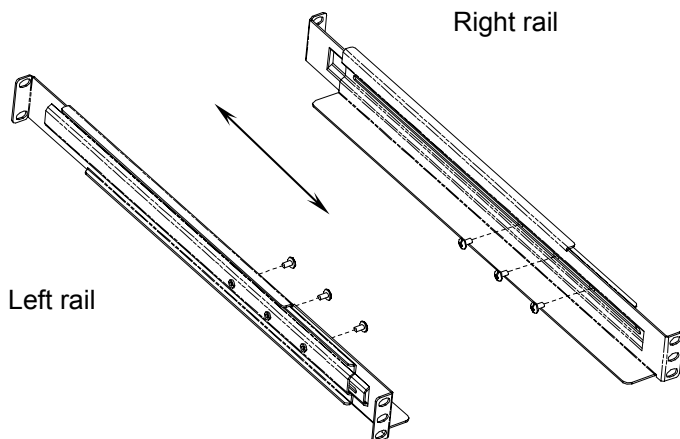

Fig. 1: Pre-installation of the left and right rails
1. First install the enclosed rack rails, which can be varied in terms of depth, see Fig.1. Insert the screws in the left and right rail loosely.